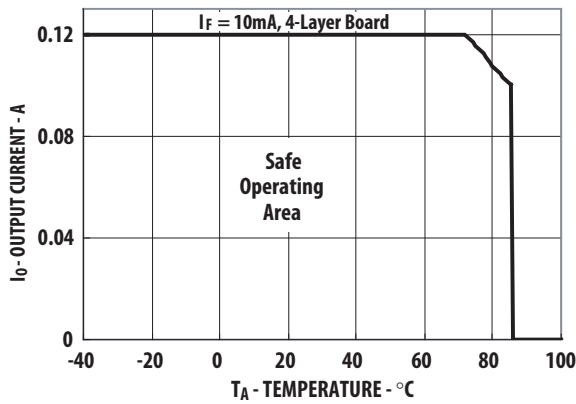

Figure 1. Maximum Output Current Rating vs Ambient Temperature (ASSR-4110-003E)
- For derating, refer to Figure 1, 2, 3 and 4.
Figure 1, 2, 3 and 4 specify the maximum average output current allowable for a given ambient temperature. The maximum allowable output current and power dissipation are related by the expression $R_{ss} = P_o(\max)/(I_o(\max))^2$ from which R_{ss} can be calculated. Staying within the safe area assures that the steady state MOSFET junction temperature remains less than 125°C.